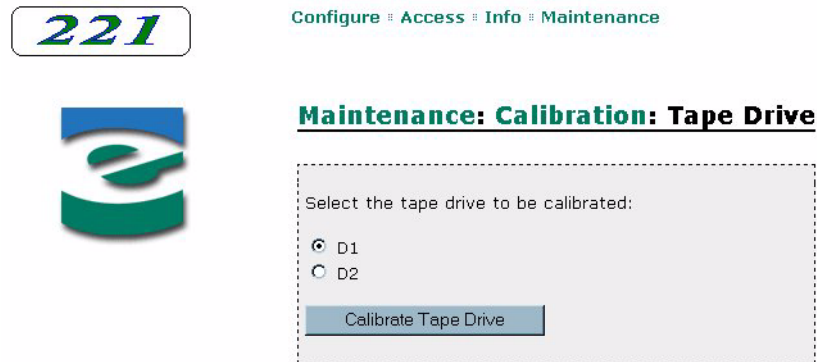

Figure 6-46 Remote management utility – Tape Drive Calibration page
- Click on Calibrate a tape drive. A page similar to Figure 6-46 appears.